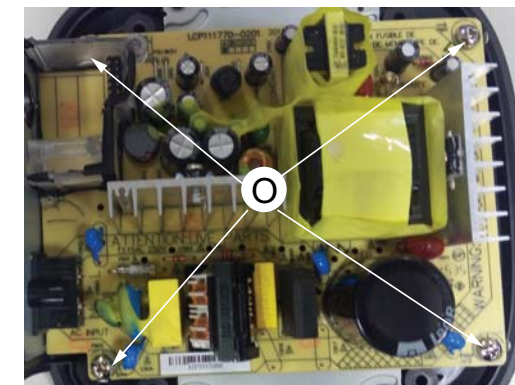

Figure 15
- 1) Loosen 4 screws "O" on the MAIN PSU CEM-1 Board as shown in figure 15.